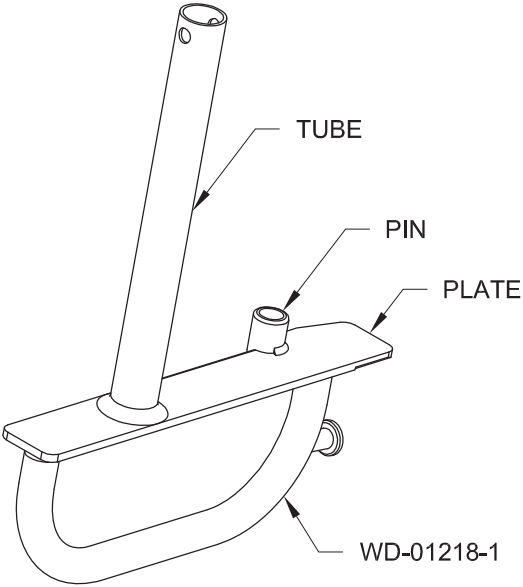

FIGURE 2: CANOPY LATCH
Step 4: From inside the cockpit lower the canopy and rotate the latch to the closed position. It is acceptable for the latch plate to strike the ramped portion of the block. See Figures 2 and 3.